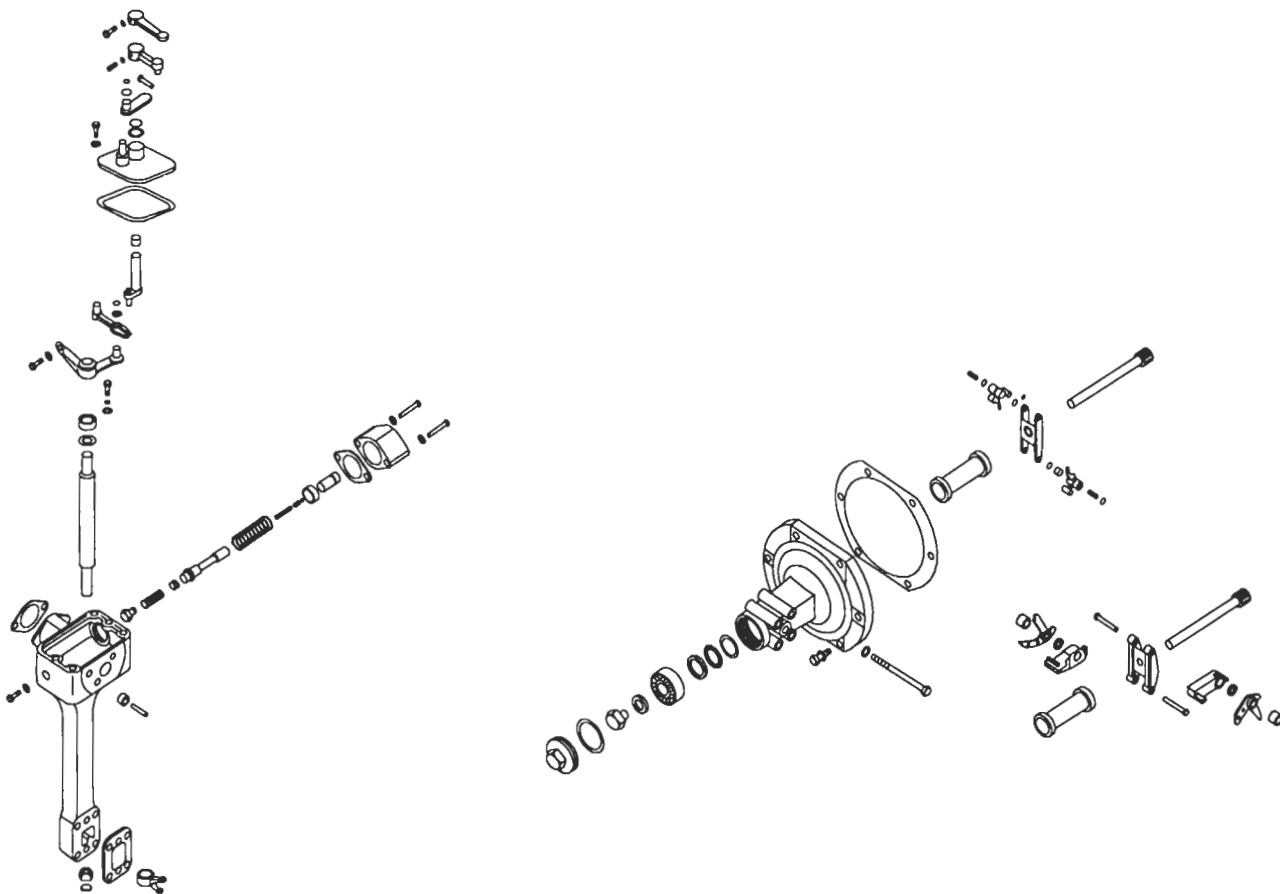

Figure 5. Limiting Speed Governor Components
- e. Remove the expansion plug (Figure 5.) out of the lower end of the control housing.